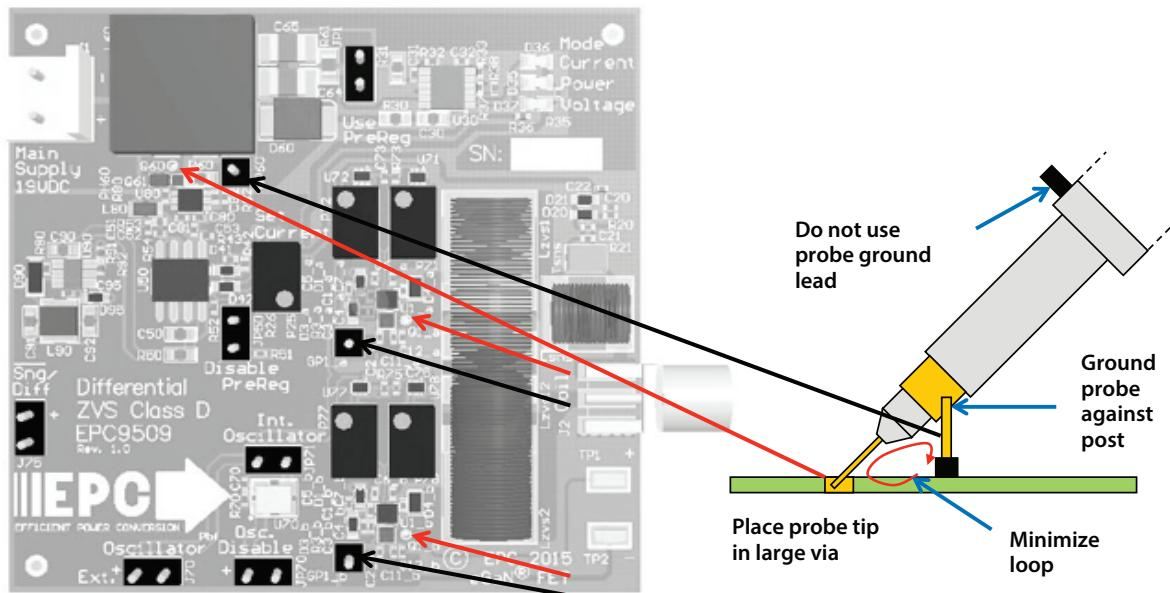

Figure 9: Proper measurement of the switch nodes using the hole and ground post
3. Connect a LOW capacitance oscilloscope probe to the probe-hole of the half-bridge to be set and lean against the ground post as shown in Figure 9.